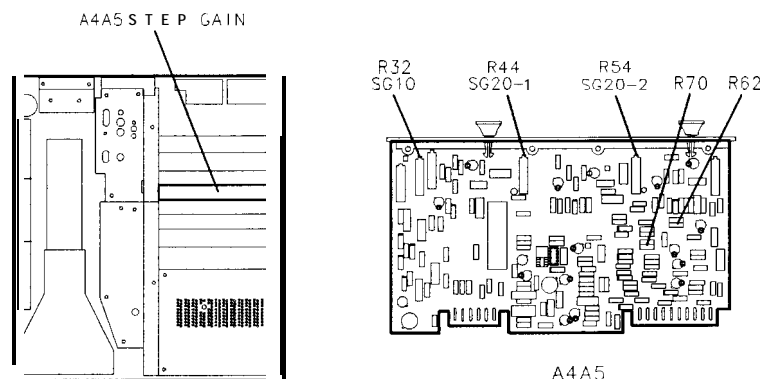

Figure 3-48. Location of 10 dB Gain Step Adjustments
16. Adjust A4A5R32 SG10 for MKR A level of .00 dB (CRT MKR A annotation is now in upper right corner of CRT display). See Figure 3-48 for location of adjustment.
19. Adjust A4A5R44 SG20-1 for MKR A level of .00 dB. See Figure 3-48 for location of adjustment.
21. Adjust A4A5R54 SG20-2 for MKR A level of .00 dB. See Figure 3-48 for location of adjustment.